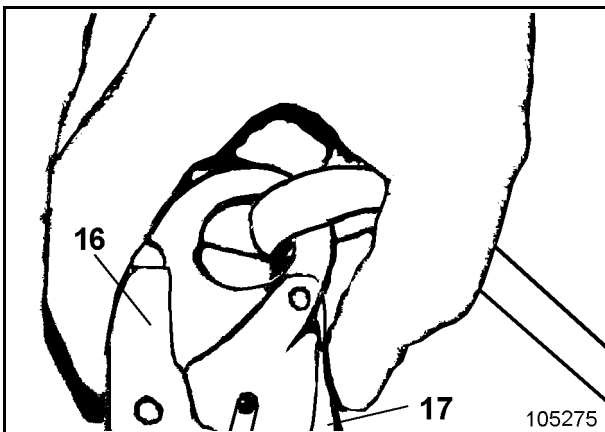

Fig. 2-40:
- ➡ Release hooking safety device (17, Fig. 2-40:)